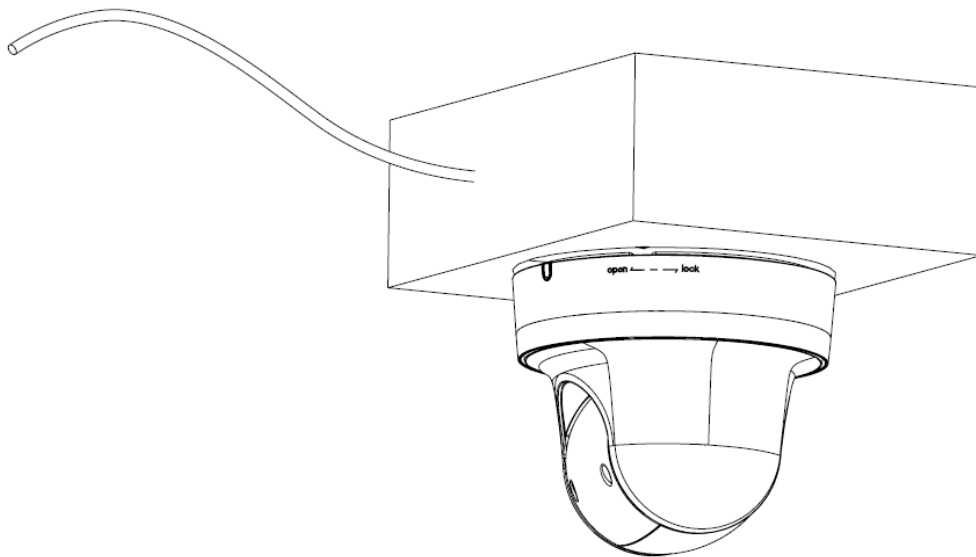

Figure 4-3
- 4) In Figure 4-3, line up the three quick installation screws at the bottom of the pedestal and the concave to the three holes and the U slot at the sheet metal respectively. Turn counter clockwise to secure the speed dome and the sheet metal closely.